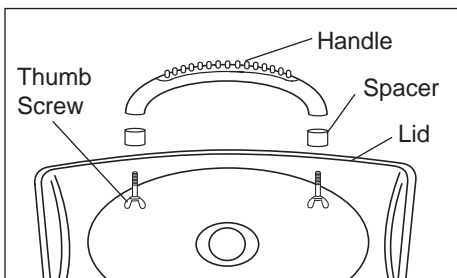

Figure 1
6. The Handle and mounting hardware, (Thumb Screws and Spacers) are shipped assembled in an inverted fashion, requiring minor reassembly. Remove the Handle and Spacers from the inside of the Lid by loosening and removing both Thumb Screws. Reposition the Handle and Spacers on the top of the Lid. From the inside of the Lid, thread the Thumb Screws through the Lid and into the Spacers and Handle. Securely tighten each Thumb Screw. See Figure 1.